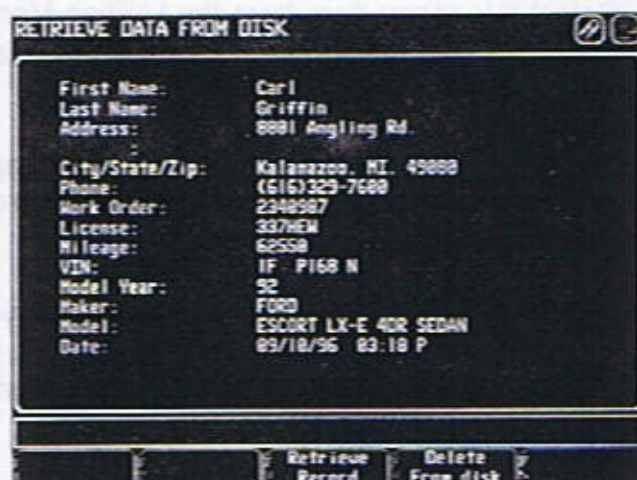

Figure 5-32
3. A summary screen of the record is displayed on the screen (see Figure 5-32).